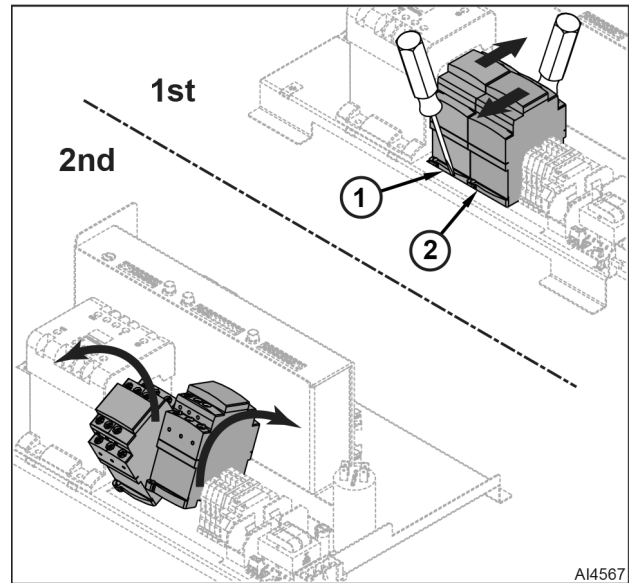

Fig. 14
3. Remove contactor Ks (1, Fig. 14) as follows:
4. Remove contactor Kr (2, Fig. 14) as follows: